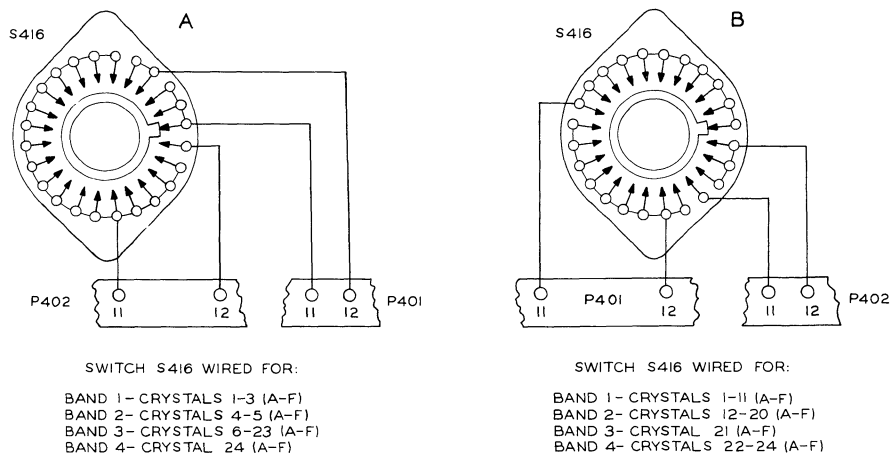

Figure 2-18. Band Switch S416, Typical Wiring Connections
2.4.1.1 WIRING OF BAND-SELECTOR SWITCH S416. When the 614D-1 Remote Control Unit is used, band-selector switch S416 must be wired for proper band operation. The wiring of switch S416 is determined by the needs of the particular installation. Typical examples of switch wiring are shown in figure 2-18. In this control system, wiring of crystal A1 in band 1 automatically results in the placement of crystal 1 in banks B through F in band 1. Wiring of crystal A1, A2, and A3 for the band 1 position (refer to figure 2-18) results in the placement of crystals 1 through 3 positions in banks B through F being also in band 1. If crystals were so placed in band 1, there would be three crystals in each bank and six banks, making a total of 18 crystals. As shown in figure 2-18 there would be a total of 18 crystals in band 1, 12 in band 2, 108 in band 3, and 6 in band 4, making a total of 144 crystal positions. If but a single channel is desired in band 1, the five remaining banks cannot be used. Carrying this to the extreme . . . if a single channel is desired in three of the four bands and all of the remaining channels are used in the fourth band, we would have 1 crystal in band 1, 1 crystal in band 2, 1 crystal in band 3, and 126 crystals in band 4, making a total of 129 channels available. Fifteen channels would have been sacrificed, five in each of the three bands, in order to have only one channel in each of those three bands. The function of S416 is discussed in paragraph 4.6.1.